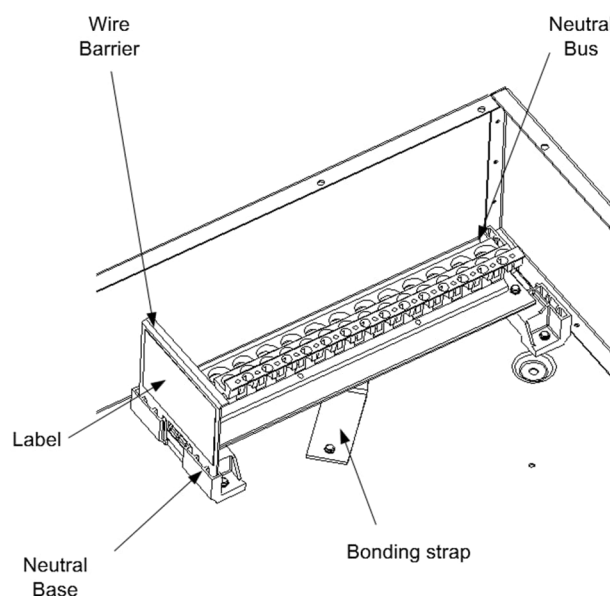

Figure 2. Wire barrier installed in the neutral
4. Install the wire barrier into the neutral base, with the flange side facing the neutral bus, as shown in Figure 2. The label is located on the side of the wire barrier opposite the flange.